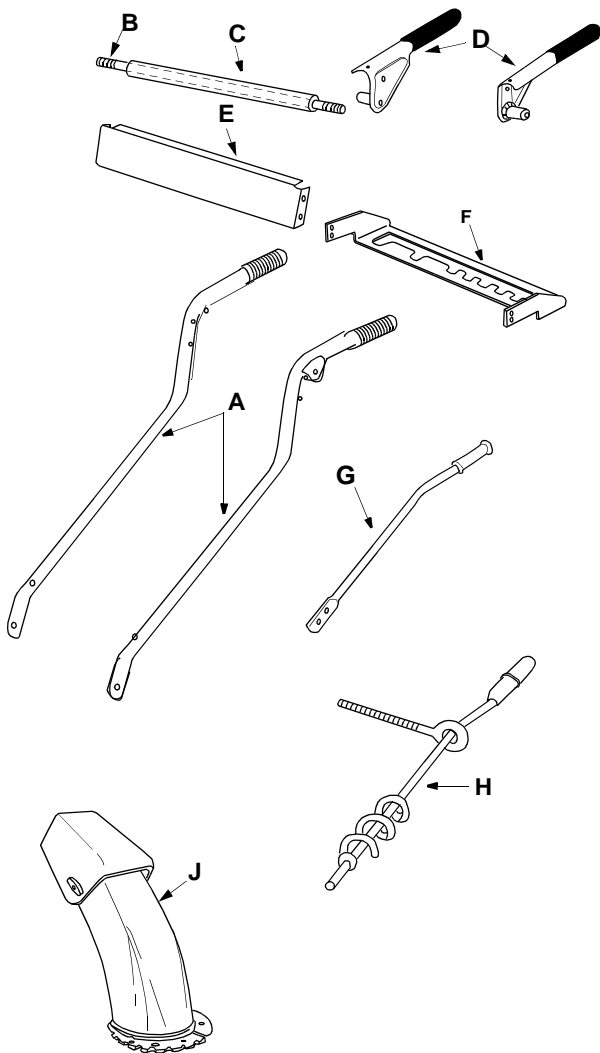

Figure 1
- Compare Figure 1 with the list below to identify loose parts in the carton.